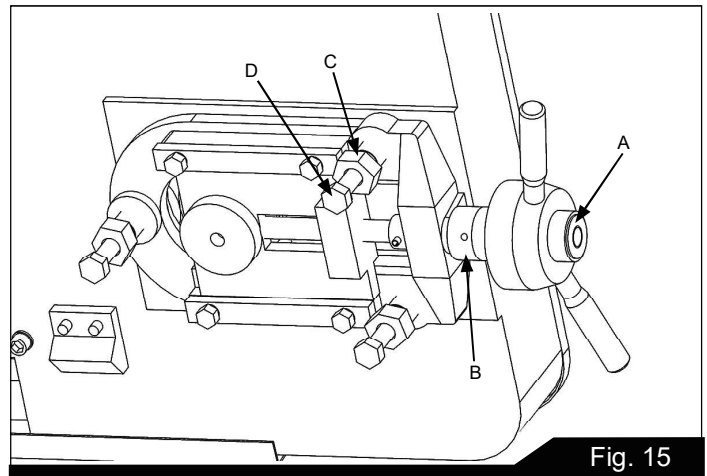

Fig. 15
Blade tension has been preset in factory; therefore, by turning handwheel (A) in Fig. 15 clockwise until (B) portion slip then tension for the blade is reached. Please note that one does not need to press the handwheel, simply turn. For blade tracking, if the back of the blade is not against the wheel flange properly, loosen the screw (C) in Fig. 15, and adjust screw (D) in Fig. 15, until the blade is tracking properly, then tighten screw (C).